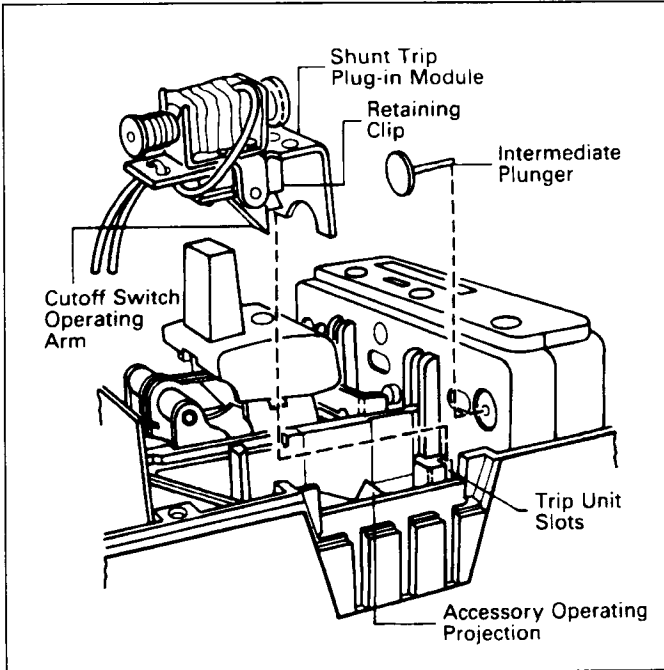

Fig. 2-4. Installing Intermediate Plunger and Shunt Trip
- a. Position intermediate plunger in trip unit. (See Fig. 2-4.)
- c. Slide shunt trip plug-in module into trip unit slots until retaining clip snaps into clip recess. Cutoff switch operating arm must be between the accessory operating projection on the molded crossbar and the trip unit (Fig. 2-4.). For terminal block assemblies, slide terminal block into mounting slot on side of base as plug-in module is being positioned.